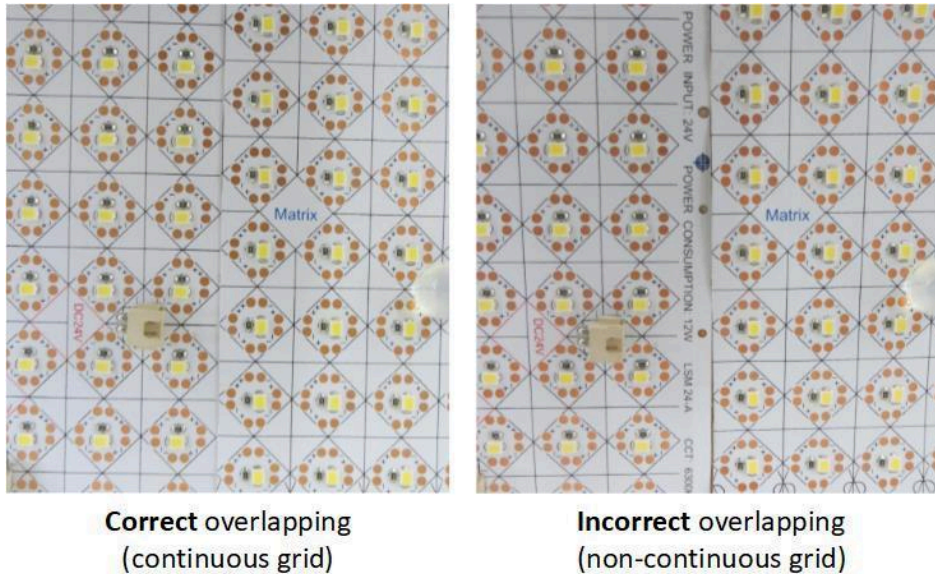

Figure 5
- 7. Place Matrix sheets such that they overlap to form one continuous sheet. **See Figure 5.** Gaps or discontinuities will produce a shadow line. This is most effectively completed by utilizing cut lines to properly align sheets.